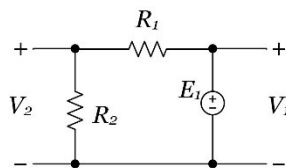

Figure 1. Simple iv-characteristics measurement circuit.
1. Construct the circuit shown in Figure 1, using your AD2 wave function generator to implement the source E and the oscilloscope channels to implement V1 and V2. Use 1k for R1 and any resistor from your parts kit for R2.
1. (10 points) Simulate the circuit in Figure 1.